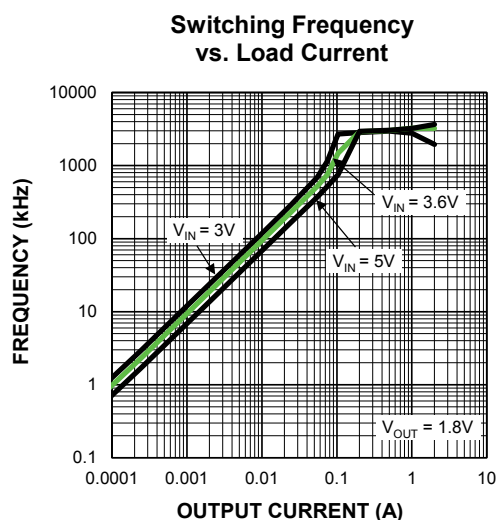

Figure 4. SW Frequency vs. Output Current
As shown in Equation 11, the load at which the MIC23451 transitions from HyperLight Load mode to PWM mode is a function of the input voltage (V_{IN}), output voltage (V_{OUT}), duty cycle (D), inductance (L), and frequency (f). Figure 4 shows that as the output current increases, the switching frequency also increases until the MIC23451 goes from HyperLight Load mode to PWM mode at approximately 120mA. The MIC23451 will switch at a relatively constant frequency around 3MHz after the output current is over 120mA.